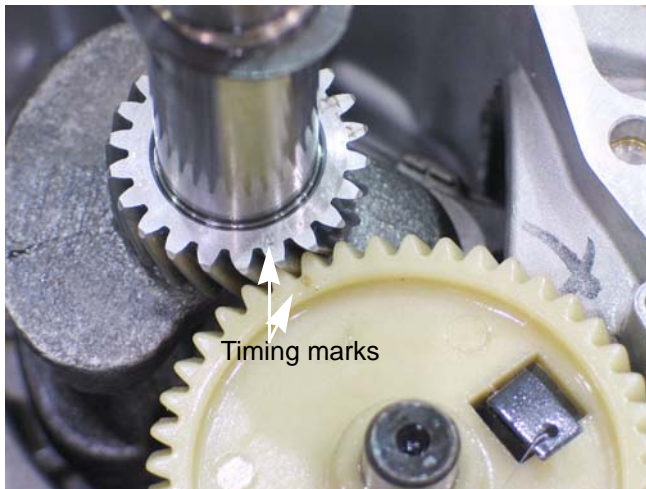

Figure 10.27
- 6c. Insert the cam shaft while aligning the timing marks. See Figure 10.27.